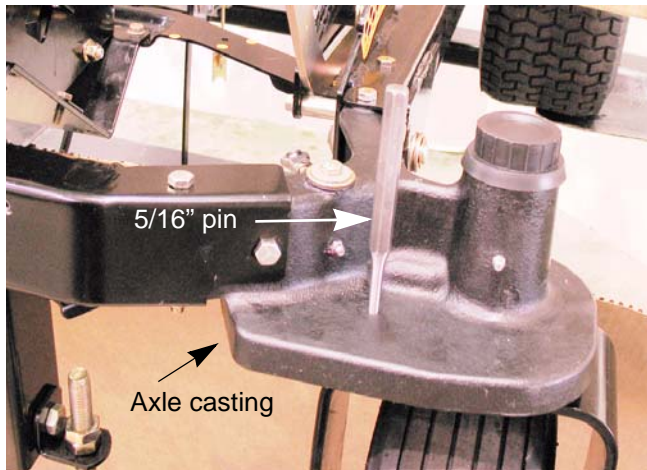

Figure 6.20
6. Insert two 5/16" pins through the holes in the axle castings. The pins should pass through the casting down to the wheel yokes. See Figure 6.20.